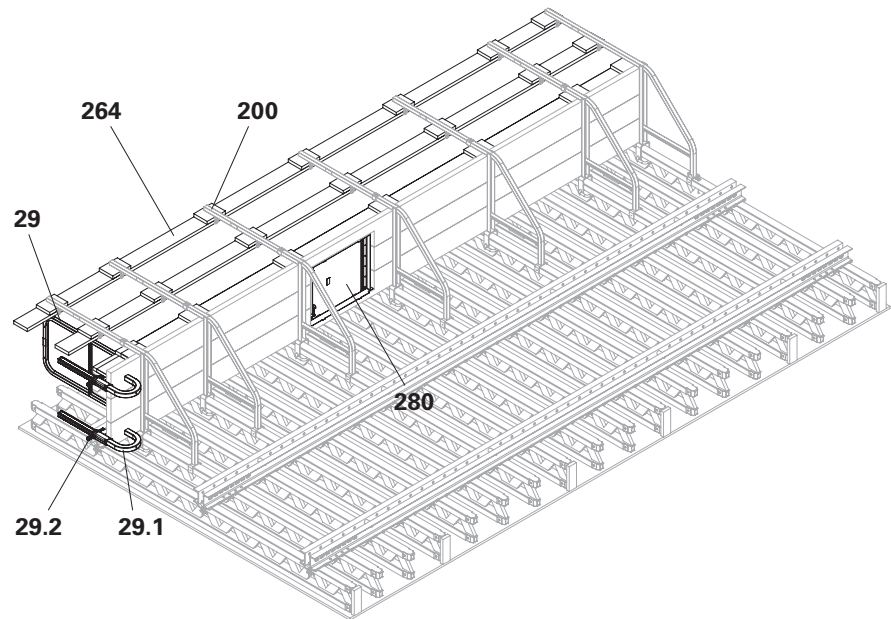
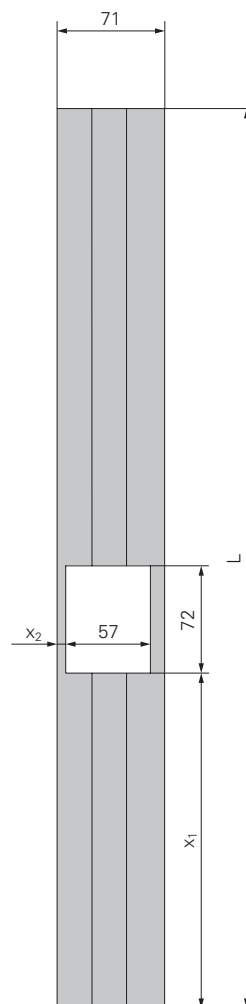

Fig. B7.05
Fig. B7.06
5. Saw the cut-outs in the platform planking according to figure B7.06.
6. Fit the hatch (280), see "Fitting the descent hatch" on page 60.
7. Insert guardrail boards (264) into holders and screw down with Torx 6 x 40 (200). If necessary, reline the guardrail boards.
8. If the concreting platform is not circumferential, put an end guardrail 55 (29) on the platform planking as far as it will go and tighten hook gauge (29.1) with drive nut (29.2). (Fig. B7.05)
(Fig. B7.06 + B7.07)